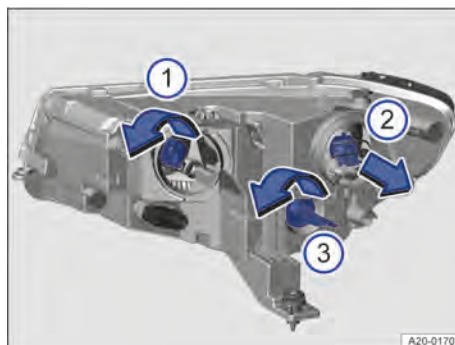

Fig. 173 In the engine compartment: changing bulbs in the right-hand headlamp.
2. Turn the bulb holder in the direction of the arrow as far as it will go and pull it out to the rear → Fig. 173 ①.
4. Insert the bulb holder into the headlamp and turn it in the opposite direction to the arrow as far as it will go → Fig. 173 ①.
2. Pull out the bulb holder in the direction of the arrow → Fig. 173 ②.
4. Insert the bulb holder into the headlamp and press in the opposite direction to the arrow → Fig. 173 ②.
1. Turn the bulb holder in the direction of the arrow as far as it will go and pull it out to the rear → Fig. 173 ③.
3. Insert the bulb holder into the headlamp and turn it in the opposite direction to the arrow as far as it will go → Fig. 173 ③.